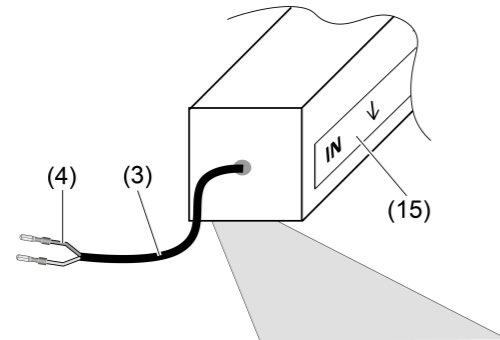

Figure 2: Beam direction of asymmetrical optics
- i** When mounting, note that there are two luminaire versions. The label on the luminaire (15) indicates the beam direction and the side on which the input cable is attached (Figure 2).